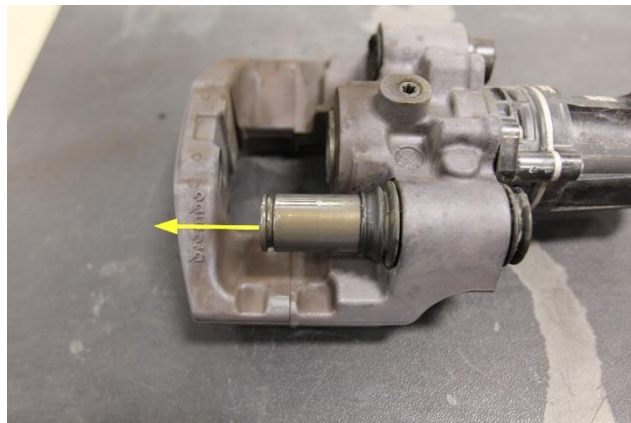

Figure 22
32. Use a pick or tiny screwdriver to release the outer boot of the lower sliding pin, and then move the pin partially outboard of the LH parking brake caliper (Figure 22).